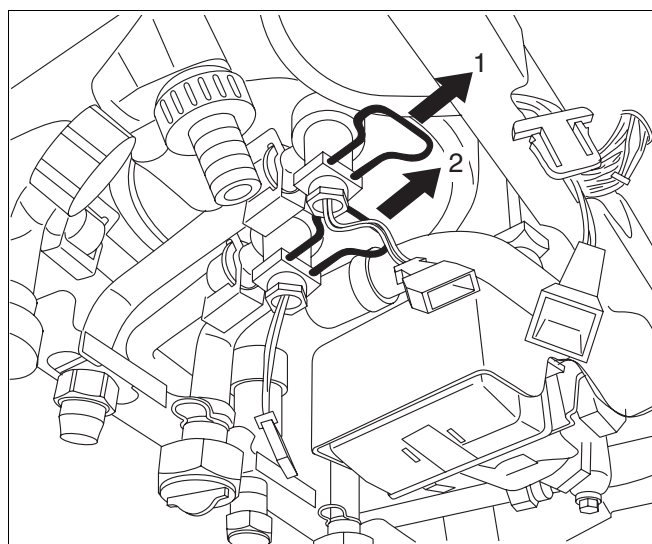

Fig. 72 Changing the domestic hot water / mains water supply
- Pull out the sensor fuses (fig. 72).